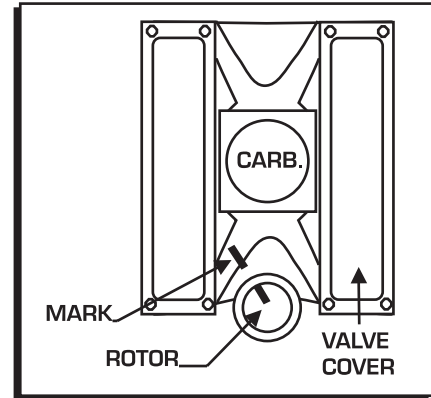

Figure 2 Marking the Rotor Location.
2. With the cap off, rotate the engine or until the rotor is aimed at a fixed point on the engine or firewall. Note this position by making a mark (Figure 2).